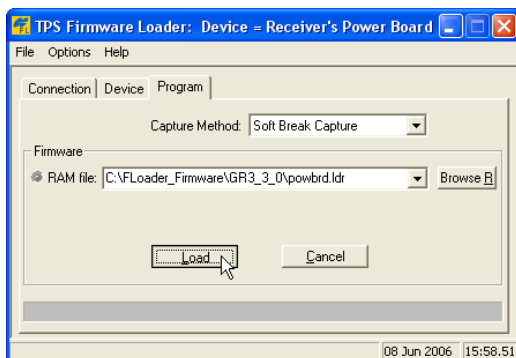

Figure 5-22. Program Tab Settings
- Click the **Program** tab and set the *Capture Method* to “Soft Break Capture” (recommended) (Figure 5-22).
- Browse for and select the Power board's RAM file (Figure 5-22).